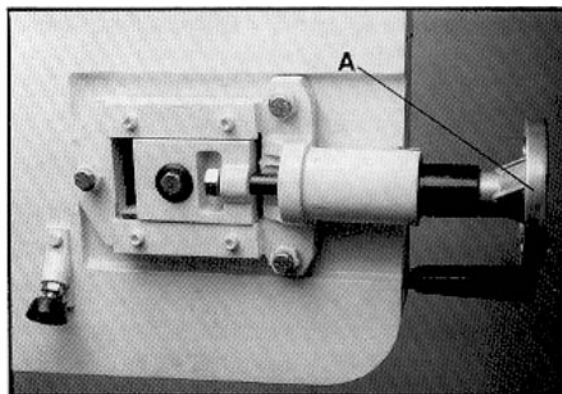

Figure 7
5. Release blade tension by turning blade tensioning handwheel (A, Figure 7) counterclockwise until blade is free.